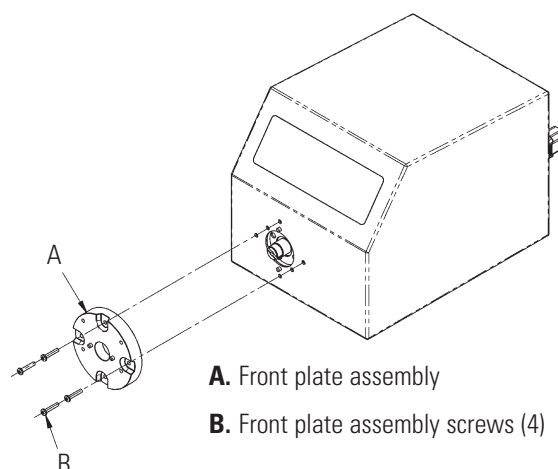

Figure 4-3. Shaft Seal Inspection
2. Remove the four (4) screws (see Figure 4-3, Item B) that hold the front plate assembly (see Figure 4-3, Item A) to the drive, and pull the front plate assembly off the drive. #8-32 screws may be installed in the pump-mounting holes to provide handles for pulling the plate assembly off. Retain Item B screws for Step 8. DO NOT substitute screws.
8. Slide the front plate assembly back over the shaft and onto the locating pins, in the orientation desired. (4 configurations, each 90 degrees of rotation apart, are possible.) Reinstall the four (4) screws, removed in step 2 (see Figure 4-3).